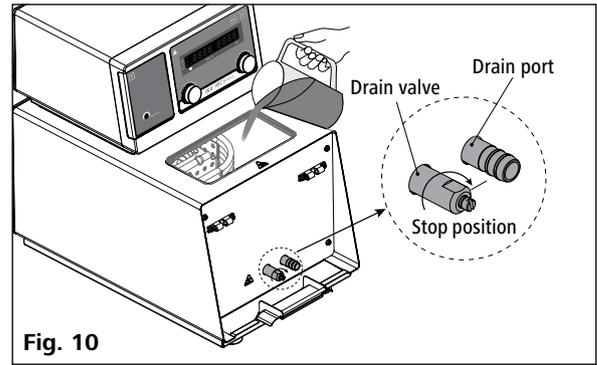

Fig. 10
- Check and make sure that the drain valve is closed (the stop position in clockwise direction, see **Fig. 10**).